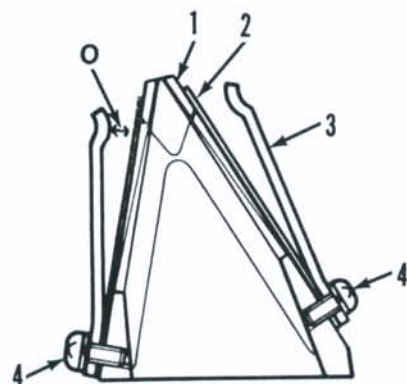

Fig. SZ11-39—Cross-sectional view of reed block and valves assembly.
Renew reed valves (2—Fig. SZ11-39) if petals are broken, cracked, warped, rusted or bent, or if tip of petal stands open in excess of 0.2 mm (0.008 in.) from seat area. Do not attempt to bend or straighten a damaged reed petal. Reed stop opening (O) should be 3.8 mm (0.15 in.). When reassembling reed valve assembly, apply Suzuki Thread Lock 1342 or a suitable equivalent thread locking compound to threads of screws (4).